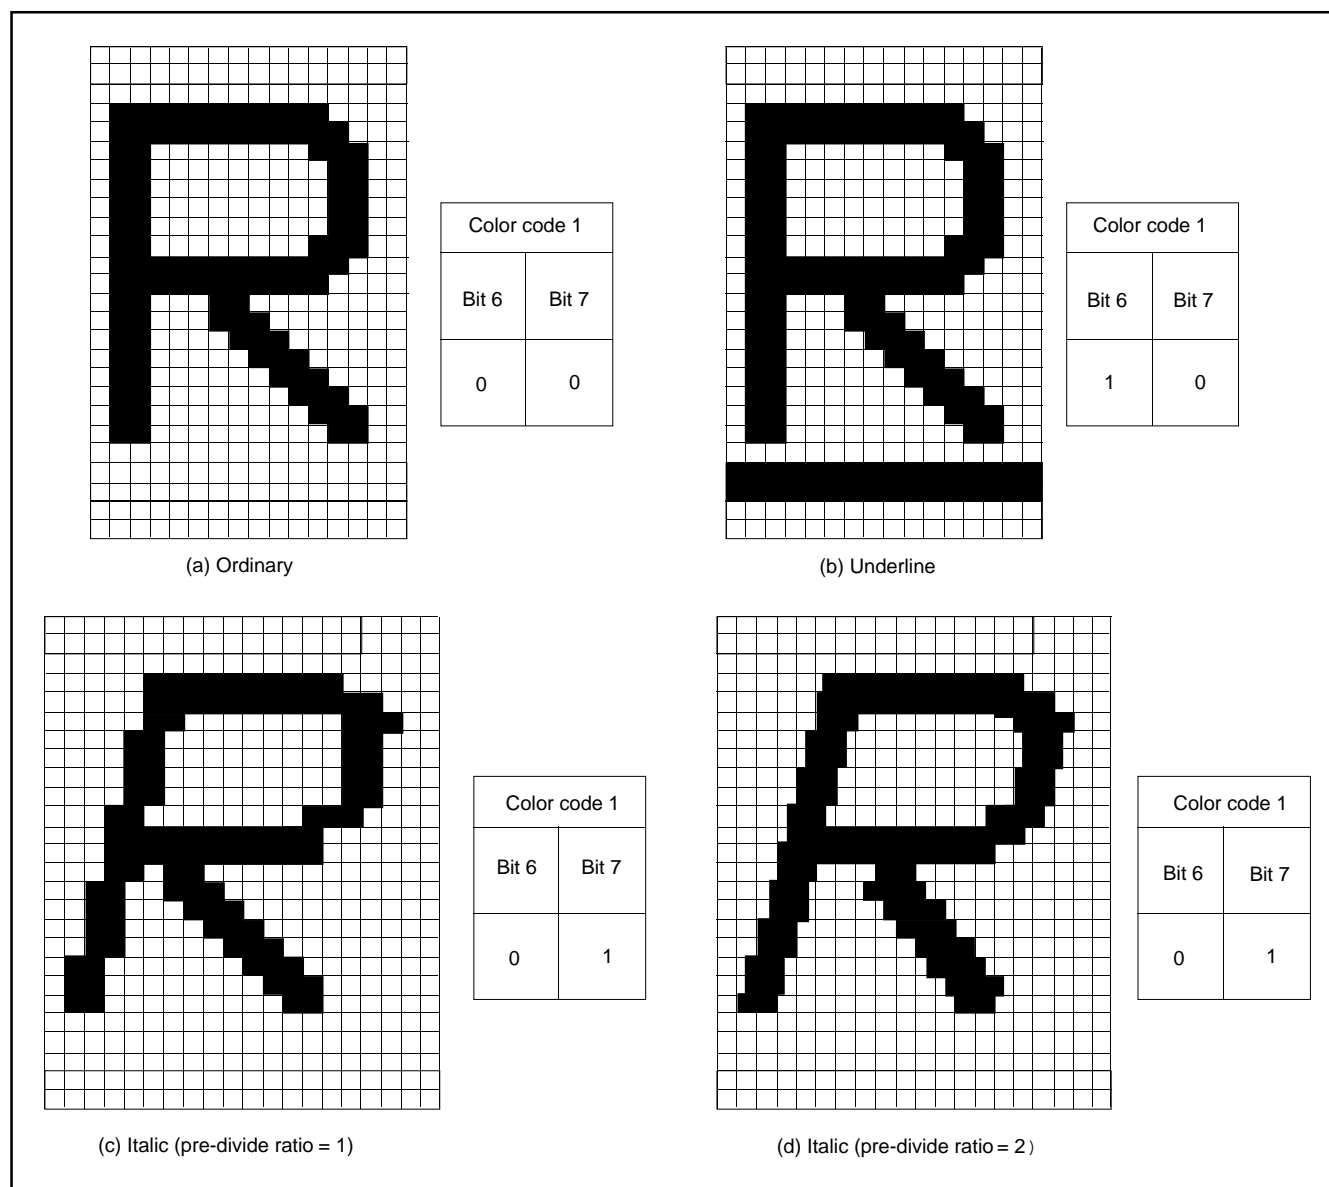

Fig. 71. Example of attribute display (in CC mode)
- 2: When the pre-divide ratio = 1, the italic character with slant of 1 dot X 5 steps is displayed (refer to Figure 71 (c)). When the pre-divide ratio = 2, the italic character with slant of 1/2 dot X 10 steps is displayed (refer to Figure 71 (d)).